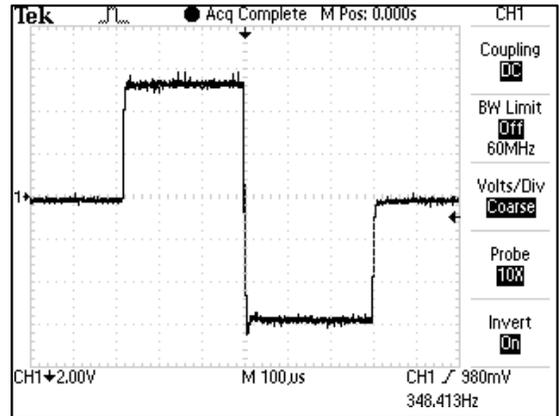

Figure 5.9
H. TENS- SYMMETRICAL BIPHASIC (Figure 5.9)